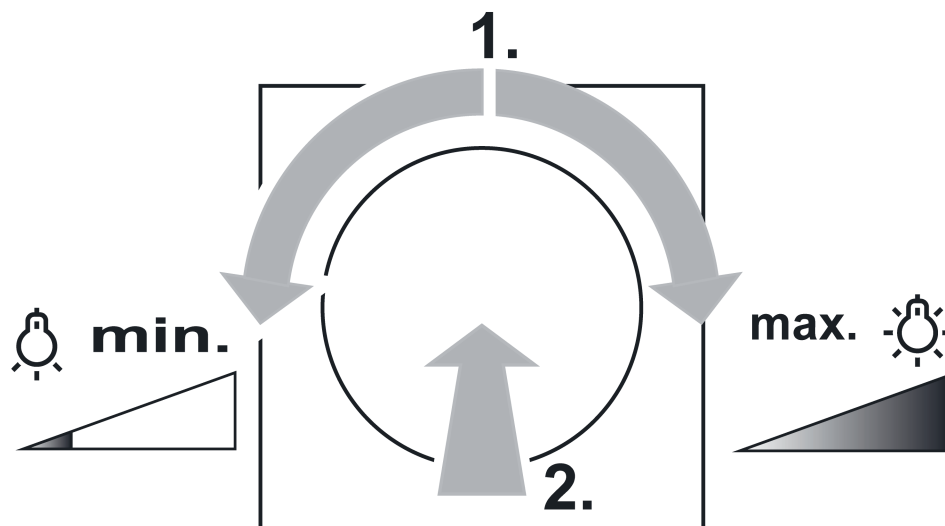

Figure 2: Switching on the light at minimum or maximum brightness
- Turn the setting knob by a quarter turn, then press the setting knob briefly: Light switches on at minimum brightness or maximum brightness (figure 2).